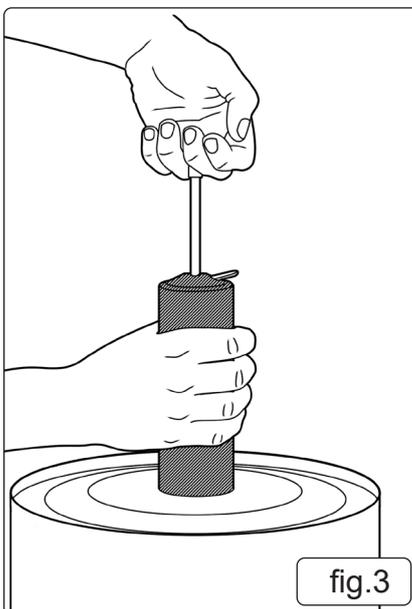

fig.3
4.4.3. Submerge the open end of the grease tube into grease bucket by approximately 50mm (2") and slowly pull the plunger handle out fully (Fig 3).